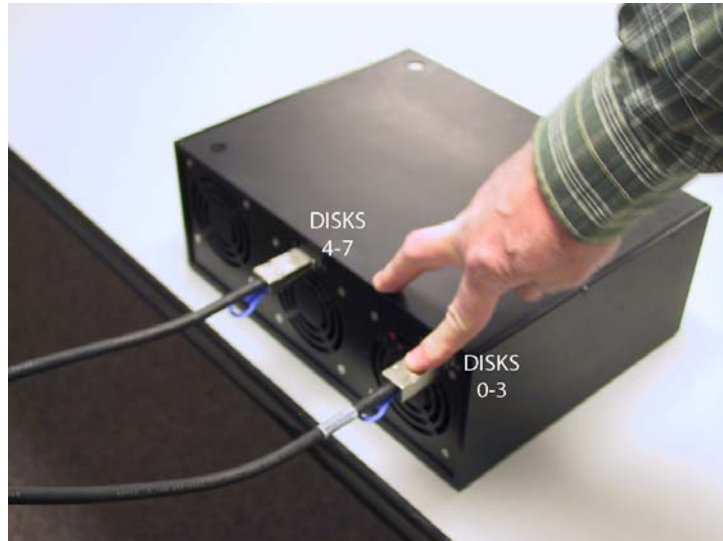

Figure 5-16
- 3) Plug the other ends of these data/control cables into the correspondingly labeled connectors on the TeraPac 3 unit as illustrated in Figure 5-16 (the *disks 0-3* connector is located on the right-hand-side of the back face of the unit – this is the connector being pointed to in Figure 5-16).